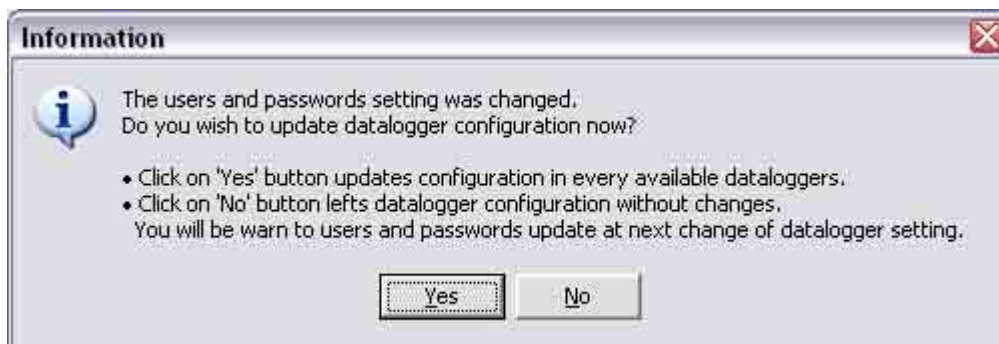

Figure 2: Prompt to update „User list“ stored in available data loggers
- Enabled – defines „User list“ for all available data logger identically based on „User list“ for program and gives notice to client with administrator rights to the need of update of „User list“ in data logger, see figure 2.
If this mode is active then program defines client list stored in data logger based on list of clients stored in program, i.e. as „User list“ at bookmark „Users and passwords“ in program options. **Then program user is responsible** for client list update in data logger by confirmation of the dialog from figure 2 or manually by selection „Update users and passwords in data logger“ from menu Configuration. Thus „Users and passwords“ button in section „Data logger communication interface“ becomes inactive in setting of data logger, see appendix 2.